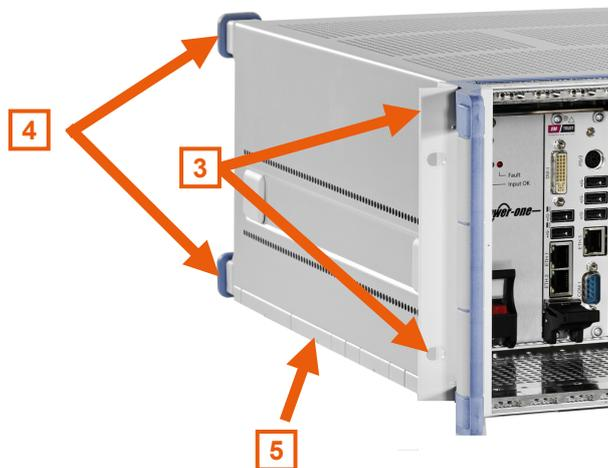

Figure 3-2: Install adapter kit
2. Attach the self-adhesive plastic slide rails (see [Figure 3-2 \[5\]](#)). The slide rails are part of the delivery.